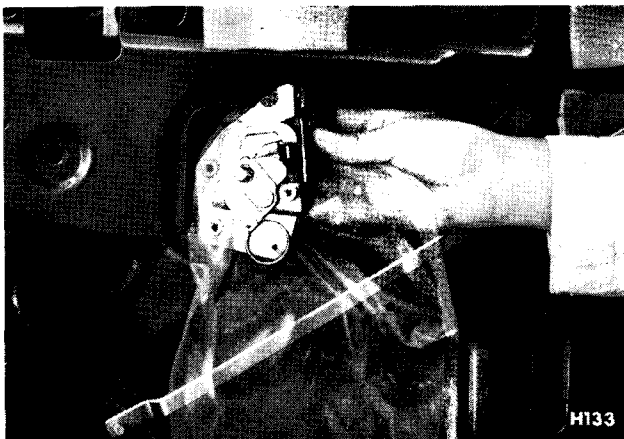

Fig. 40. Removing/fitting door lock
2. Remove the spring clip (58) waved washer (59) and release the link arm from the lock.
3. Remove three cross-recess headed screws (93) securing the lock and dovetail to the door and remove one cross-recess headed screw (90).
4. Referring to Fig. 40, remove the lock.